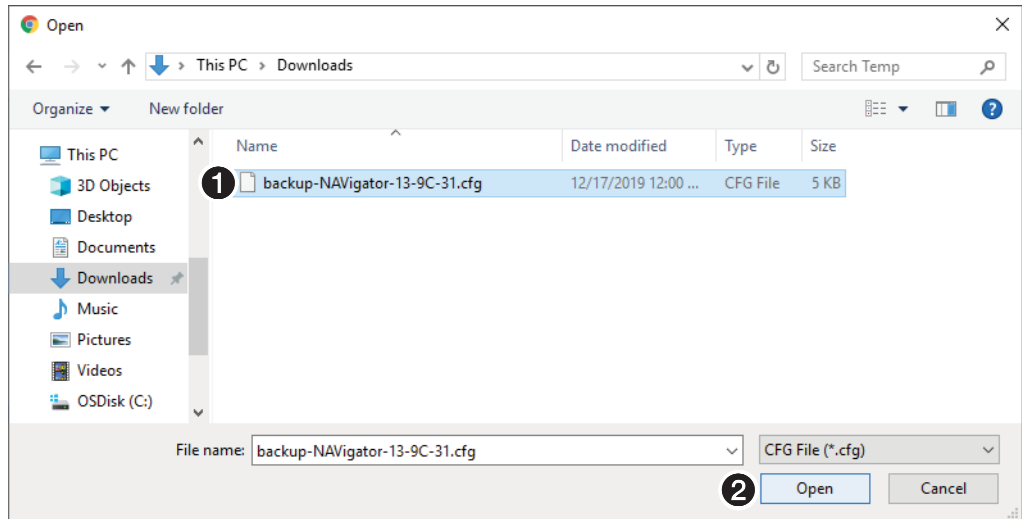

Figure 73. Open Dialog Box
4. Click **Select File** (**4**). An open dialog box opens (see figure 73 on page 73).
5. Navigate to the folder where the backup file is saved (typically the **Downloads** folder) (see figure 73, **1**). Select the file.